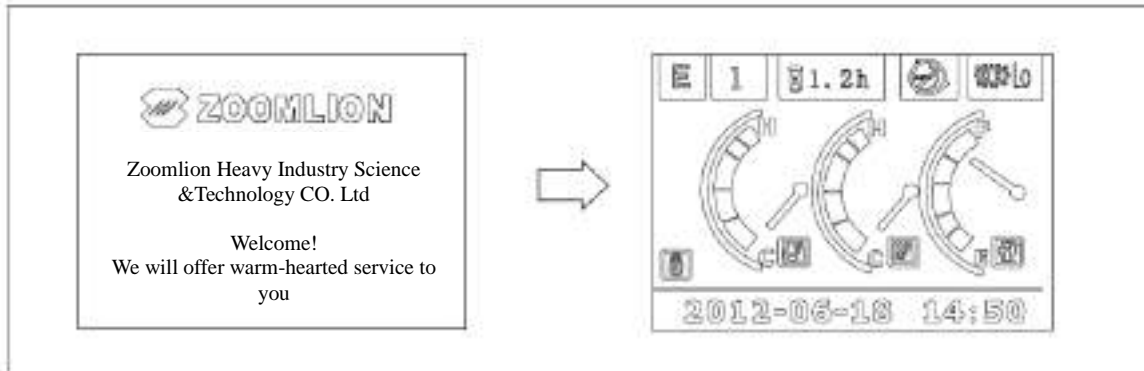

Figure 3-35 Menu for starting the instrument
a) Startup of the instrument: turn the key switch to the ON position and the display shows the standard interface, as shown in Figure 3-35.